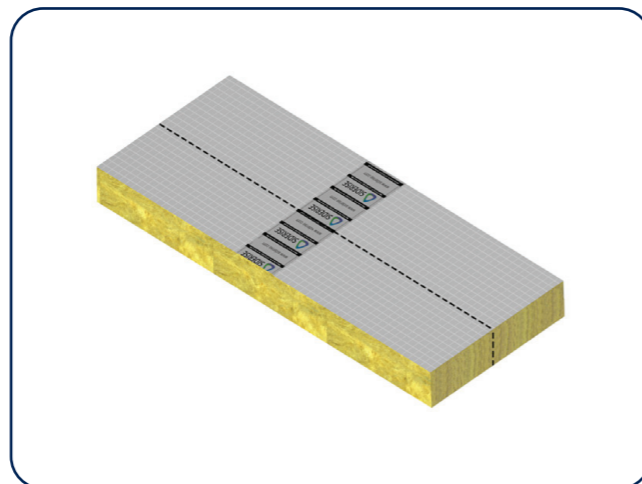

Fig 1. The cutting direction is indicated on the firefloor slab.
- Cut the sheet into strips to provide a +20mm compression between joists. Cut in the direction as indicated on the firefloor insulation slab (Fig 1). Cut through the foil facings on both sides of the slab with a sharp knife. Carefully cut the mineral fibre with the serrated blade. Avoid a violent jagged sawing action as this will rip the foil facing, as opposed to cleanly cutting it. A bandsaw may be preferred for a quicker and cleaner cut.